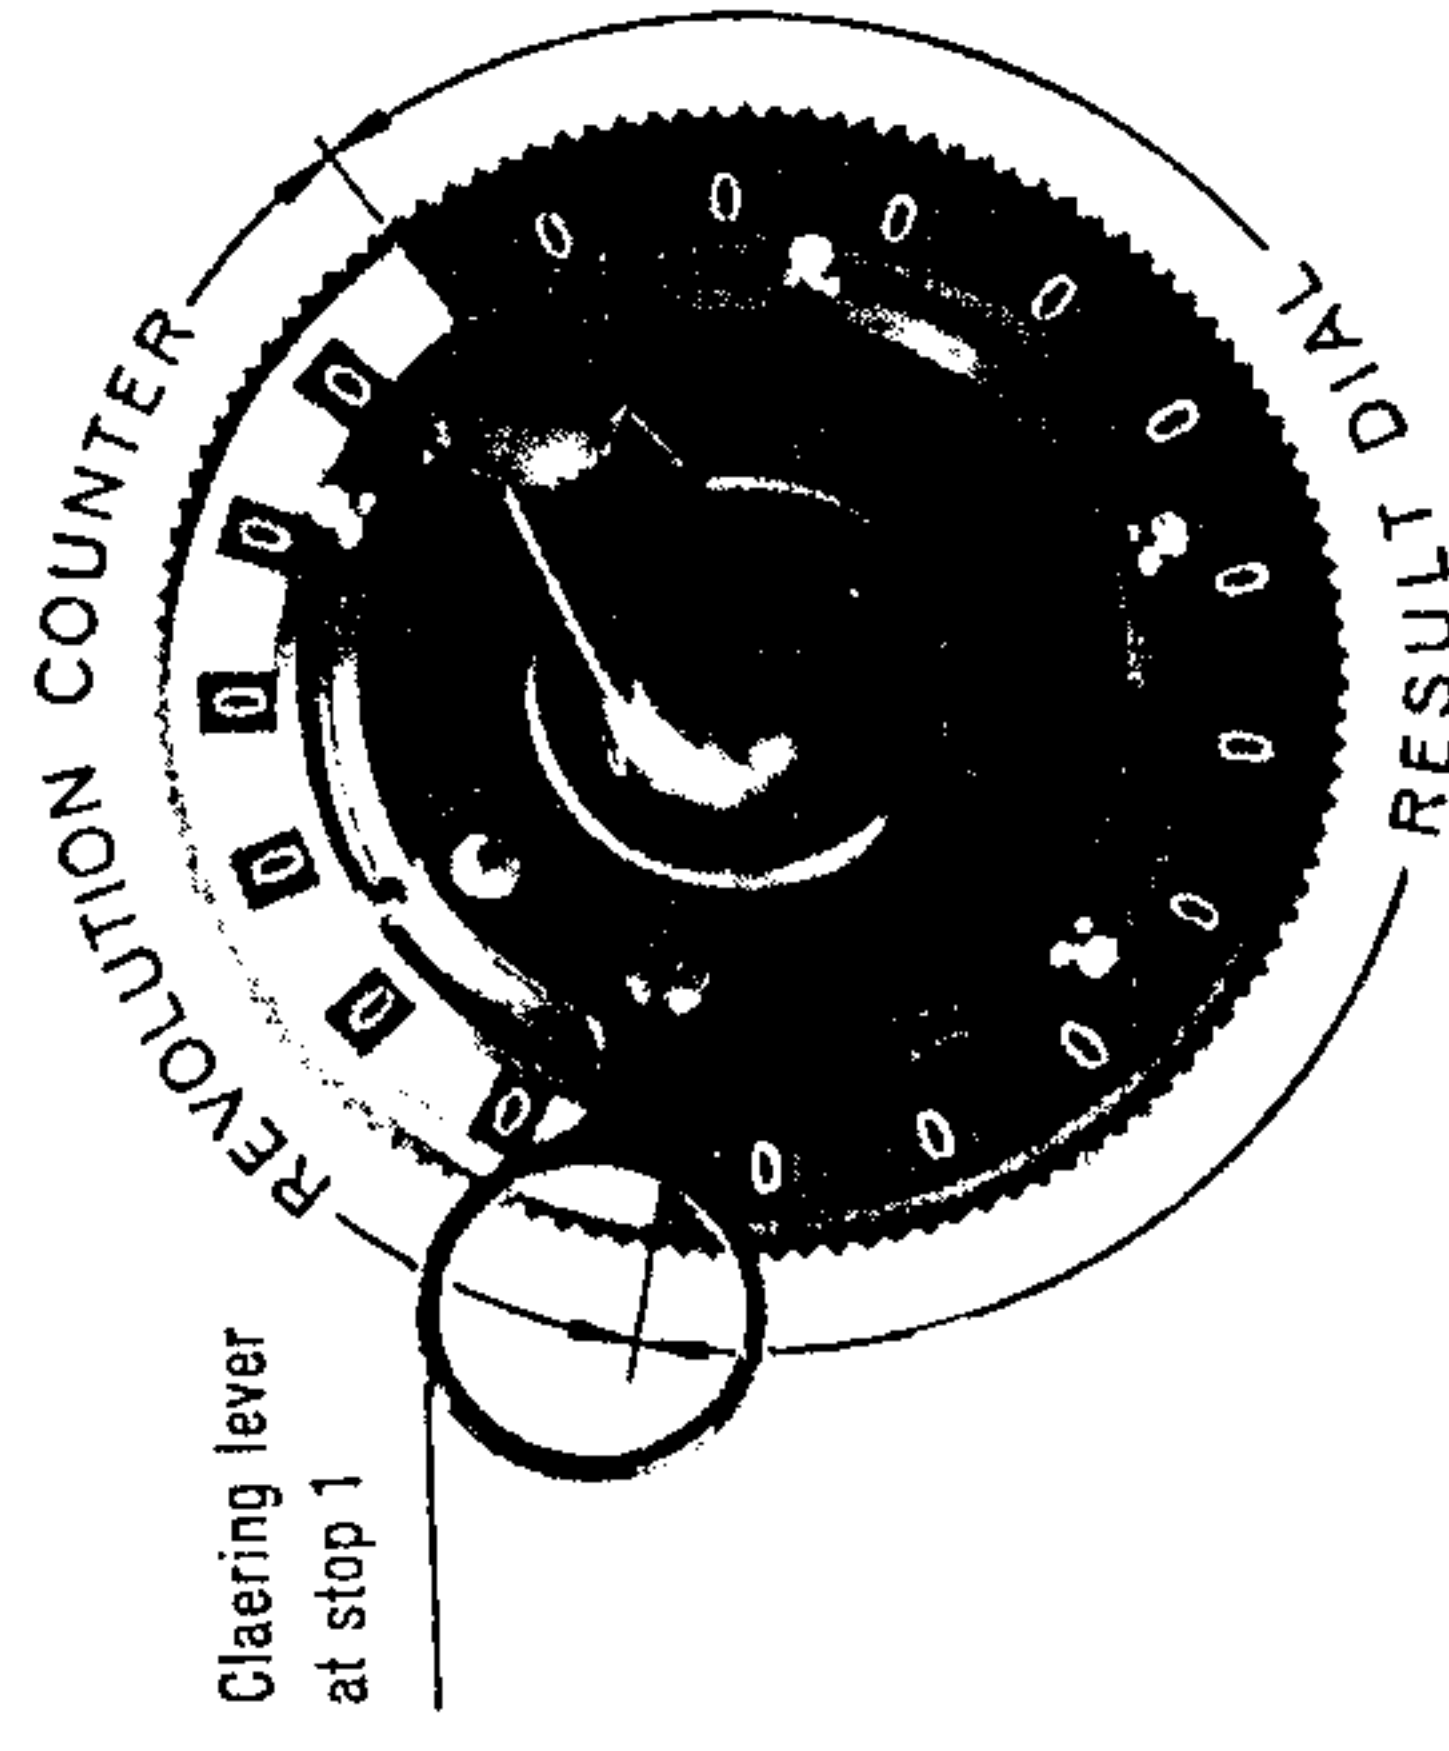

Fig. 2. Machine seen from above
3. The rotatable cylindrical carriage, which contains the result counter (dark dial with 11 places), and the revolution counter (white dial with 6 places). (See Fig. 2.)